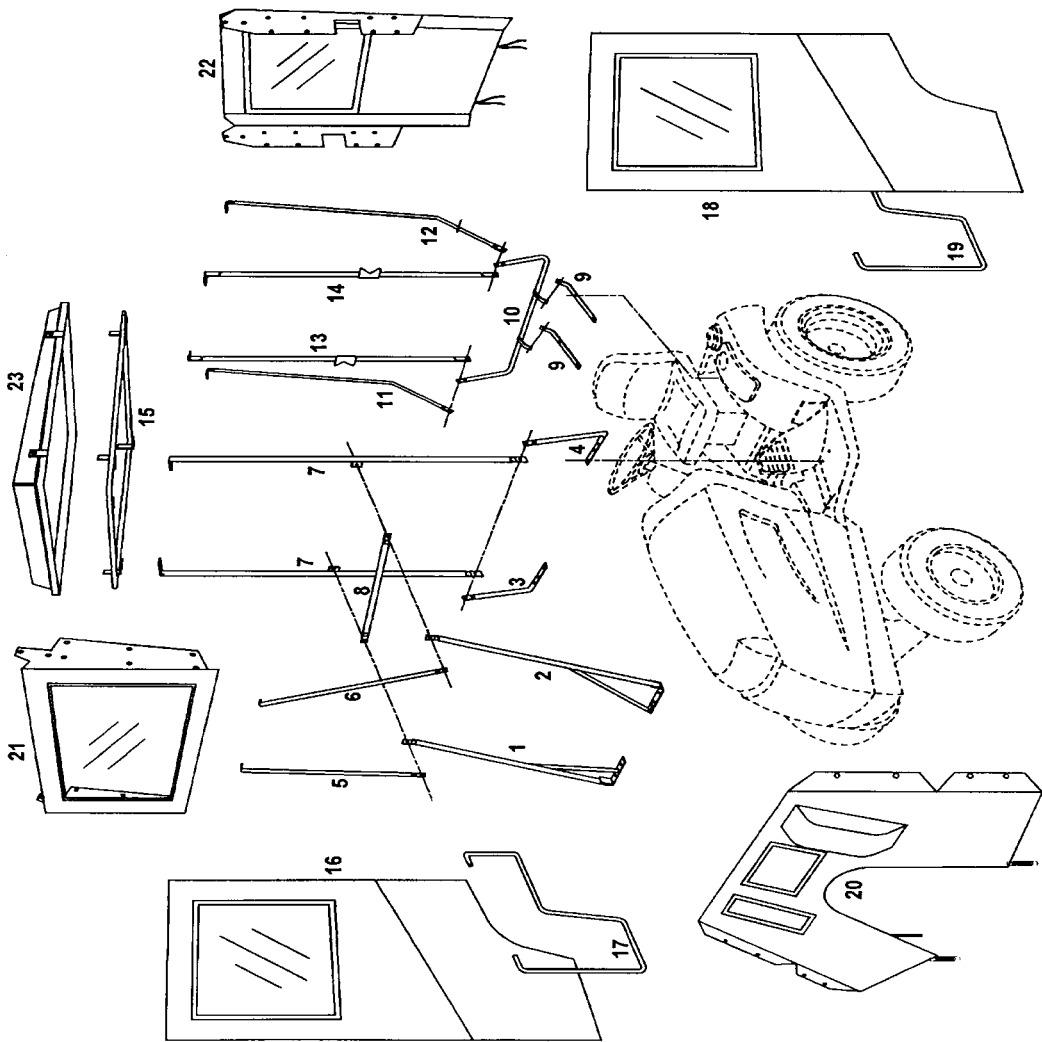

FIGURE 1
STEP 7; SEE FIGURE 1:
STEP 8; SEE FIGURE 1: